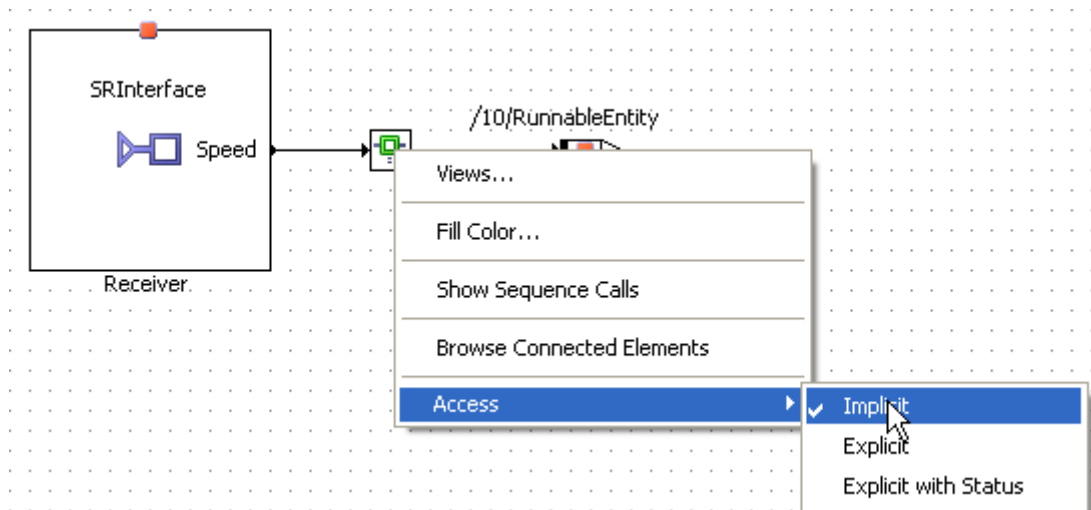

Figure 50: Changing the access type to implicit in the RTE Access operator
- In the drawing area, right-click the RTE access operator from the example of section 8.5.1 and select **Access** → **Implicit** from the context menu as shown in Figure 50.